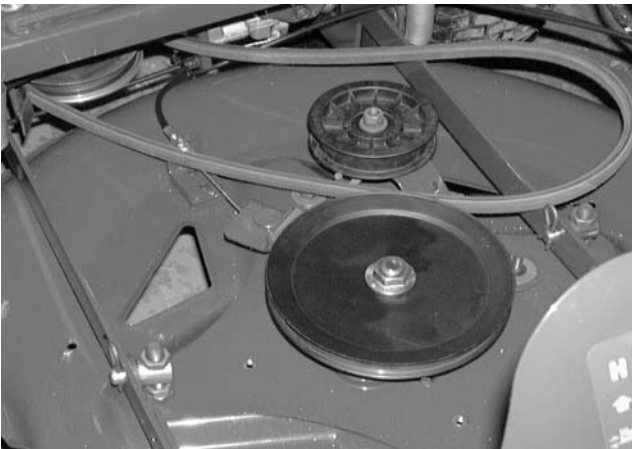

Figure 8-31.
10. Remove the deck belt from the flat idler pulley and the deck spindle pulley. See Figure 8-31.